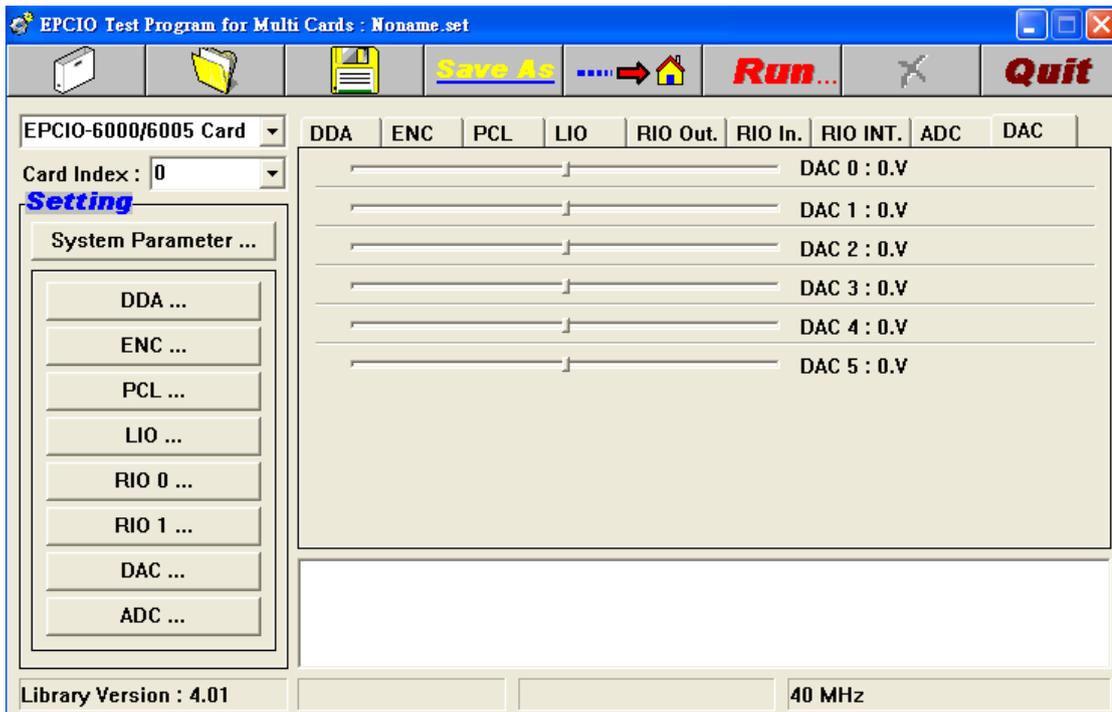

Figure 2-2.9
- (i) DAC output value display area (as shown in Figure 2-2.9)